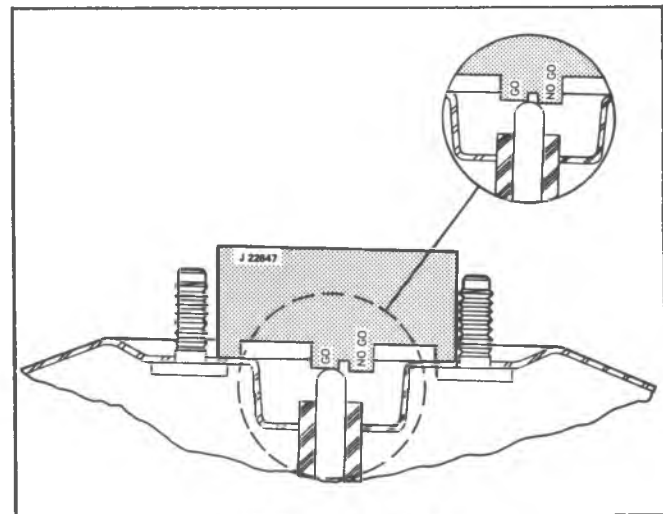

Fig. 14B--Gauging Piston Rod
4. Place Gauge J-22647 over the piston rod in a position which will allow the gauge to be slipped to the left or right without contacting the studs (fig. 14B).